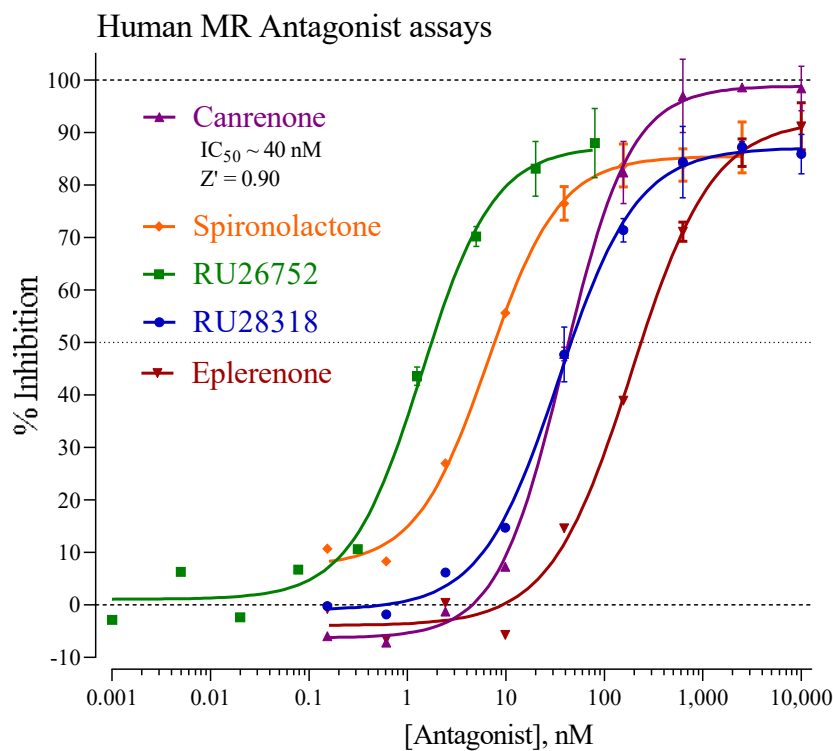

Figure 3. Validation of Antagonist-mode MR Assays
- *Optional:* reference antagonist (refer to Figure 3)